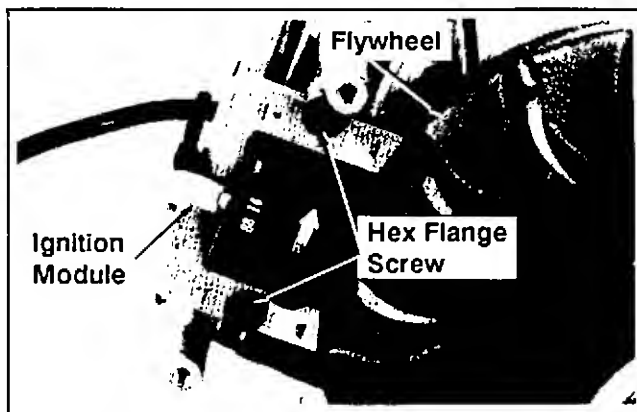

Figure 9-19. Removing Ignition Module.
2. Remove the hex. flange screws securing the ignition module to the crankcase. See Figure 9-19.